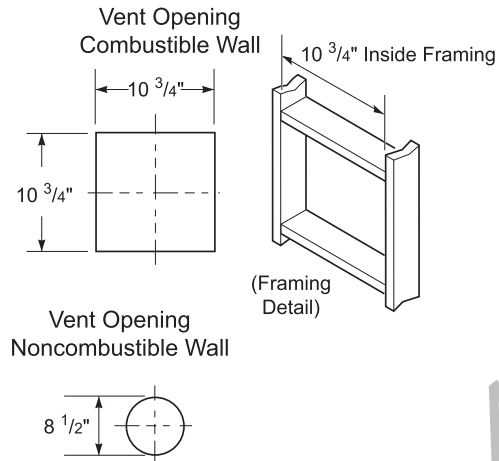
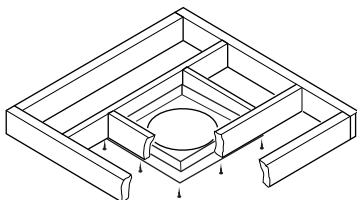

Figure 18 - Vent Opening Requirements
Figure 26 - Installing Firestop
3. Attach vent pipe assembly to fireplace using twist lock connections for rigid pipe or clamp method for flex pipe. Set fireplace in front of its permanent location to insure minimum clearances. Mark wall for a 10 3/4" square hole (for noncombustible material such as masonry block or concrete, a 8 1/2" diameter hole is acceptable). See Figure 18. The center of hole should line up with center line of rigid vent pipe. Cut a 10 3/4" x 10 3/4" square hole through combustible exterior wall (8 1/2" diameter hole if noncombustible). Frame as necessary.
1. Cut a 12 1/2" square hole in the ceiling using locating hole as a center point. Opening should be framed to 12 1/2" x 12 1/2" inside dimensions, as shown in Figure 18 on page 13, using framing lumber the same size as ceiling joists. If area above ceiling is an insulated ceiling or an attic, nail firestop from top side. This prevents loose insulation from falling into required clearance space. If area above ceiling is a living space, install firestop below framed hole. The firestop should be installed with no less than three nails per side (see Figure 26).
3. Cut a hole in roof using locating hole as a center point. (Cover any exposed open vent pipes before cutting hole in roof.) The 12 1/2" x 12 1/2" hole must be measured on the horizontal, actual length may be larger depending on pitch of roof. There must be a 1" clearance from vent pipe to combustible materials. Frame opening as shown in Figure 18 on page 14.